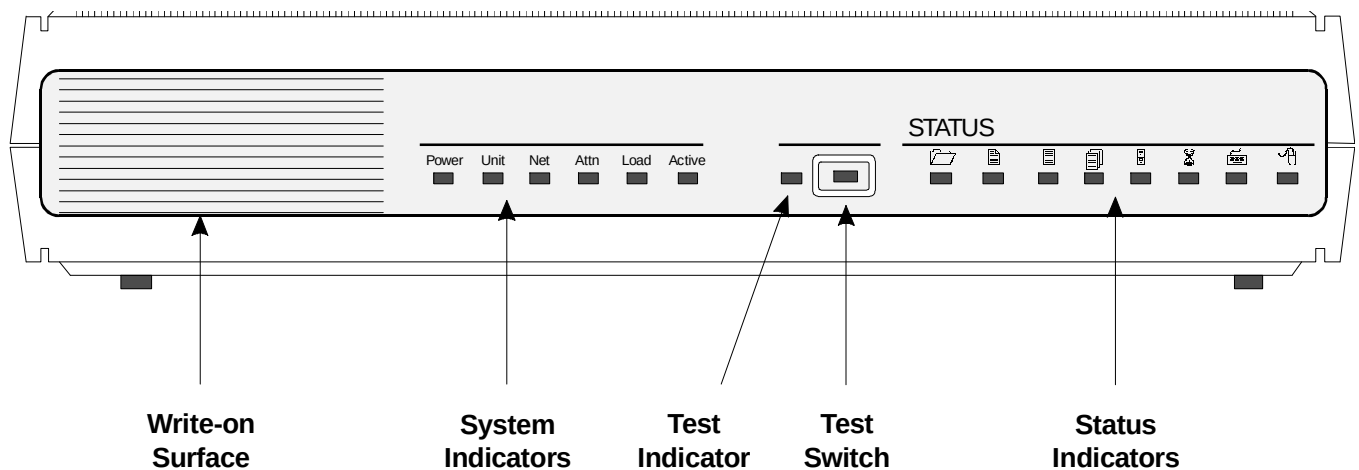

**Figure D-61: Front Panel of the Network Terminal Server**
9. Turn on the NTS, and within 15 seconds push the **TEST** button on the front of the NTS (see Figure D-61).